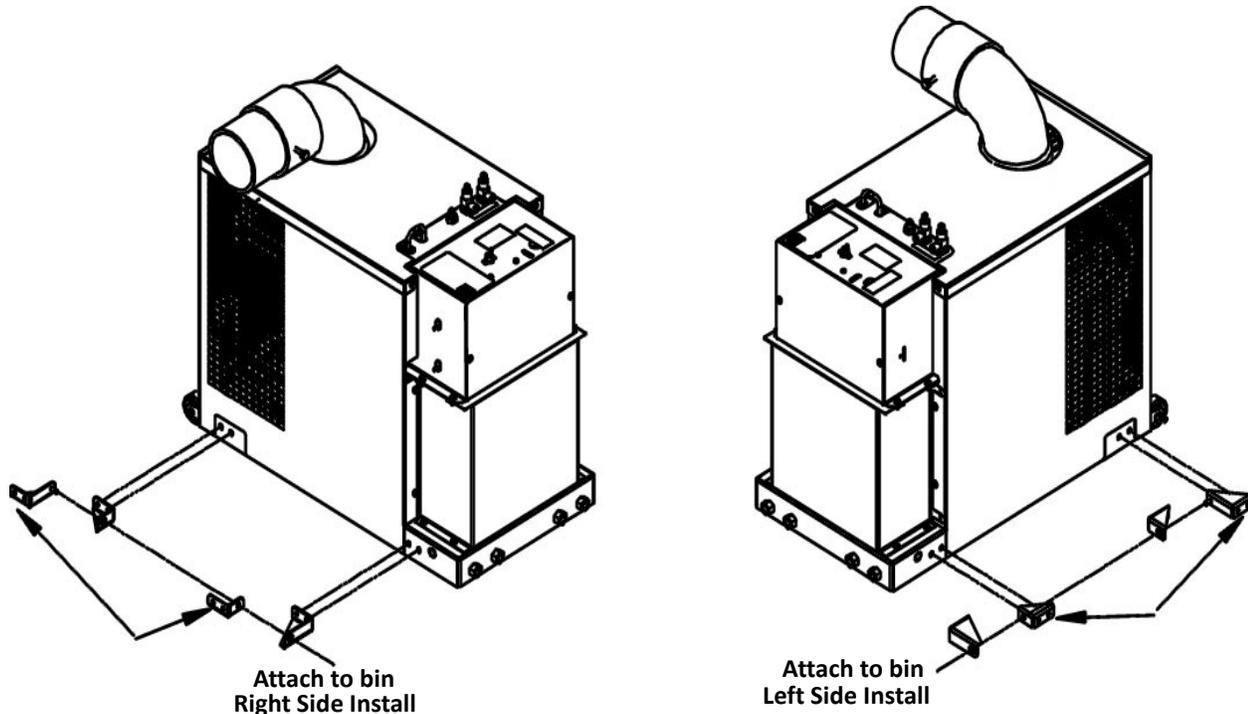

Figure 2. Side Bracket Installation
- B. Install the icemaker alignment brackets (Supplied with icemaker) to the dispenser (See Figure 2).
- A. Install the icemaker alignment brackets (Supplied with icemaker) to the icemaker (See Figure 2).